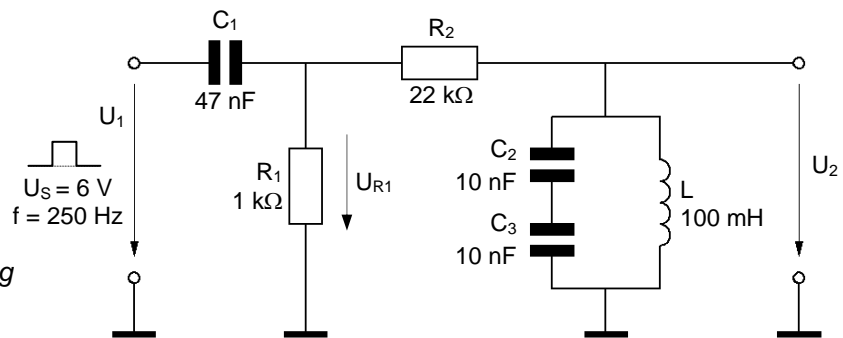
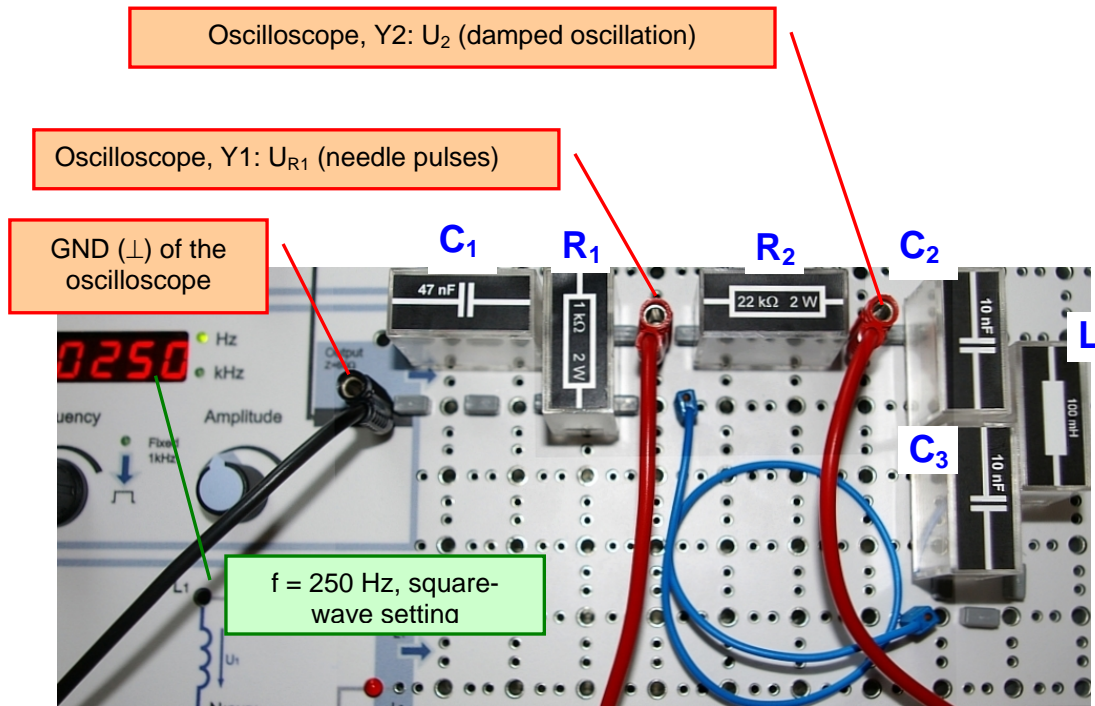

Fig. 16.3.9: Circuit for generating damped oscillations
Fig. 16.3.12: Layout, Damped oscillation“
**Circuit description:** The circuit shown in Fig. 16.3.9 for generating an oscillation, consist of 3 parts:
- Assemble the circuit in Fig. 16.3.9 on the Electronic Circuits Board. Break the connection between the RC-element and oscillating circuit by removing the coupling resistor  $R_2$ .
Fig. 16.3.12 shows the exercise layout corresponding to the circuit of Fig. 16.3.9 for generating damped oscillations. The illustration shows the second measurement required on the oscilloscope. To reduce the amount of re-connection, a 2 mm connection lead is used.